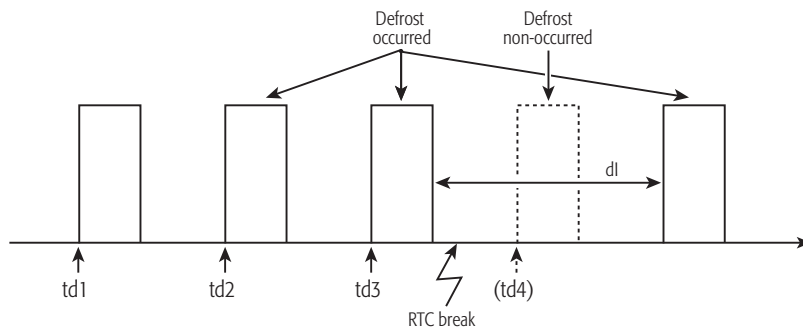

Fig. 5.e
- Heater by time with temperature control (see Fig. 5.d): heater defrost, end by time, the defrost output is only activated when the temperature measured by the defrost probe is less than the end defrost temperature threshold (basic parameter dt1). This function is useful for energy savings.
Safety parameter used to perform cyclical defrosts every "dI" hours, even without the Real Time Clock (RTC). The effect of dI is always active. It is also useful if the LAN or RS485 serial network is disconnected. At the end of each defrost, irrespective of the duration, the interval dI starts being counted. If this interval reaches the value set for the parameter without a defrost being performed by other events (RTC, manually by button or supervisor, physical or virtual digital input), a defrost is started immediately. This count is always active even if the controller is off (logical OFF). If set on a slave unit, it has effect only on this unit, independently from the others, while if set on a master it has effect on all the sub-LANs connected. dI=0 => safety disabled, only the programmed or forced defrosts are performed (see Fig 5.e).